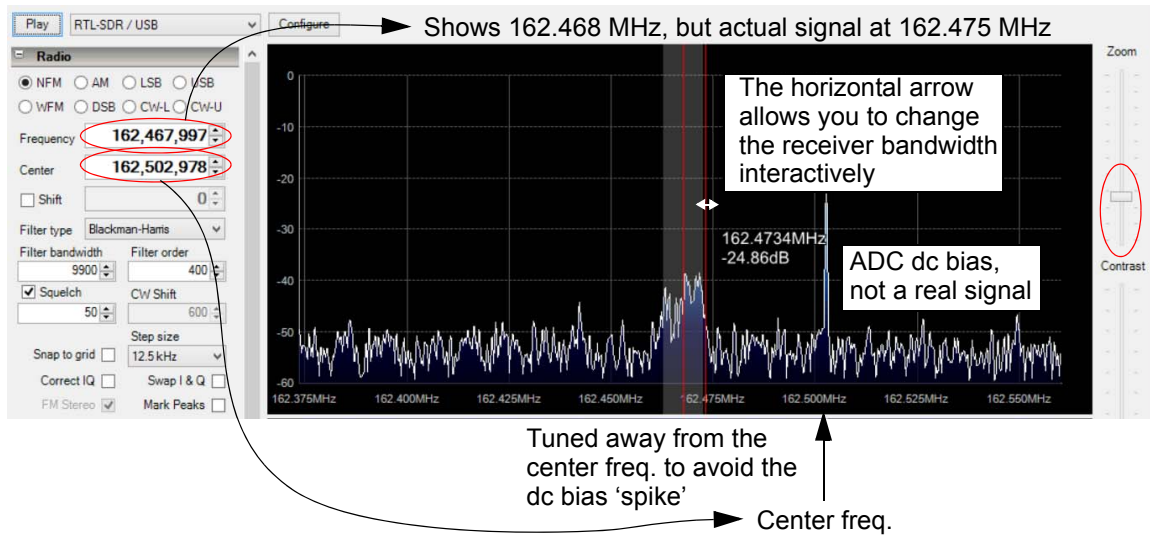

Figure 10: Dealing with dc bias at the center frequency, f_c , and taking note of frequency error.
It is important that you have the proper SDR device selected before you hit play. Figure 10 shows you how to select the proper dongle and also covers how to configure the RF gain of the device.
You may notice that there is always a spectrum spike at the center frequency f_c . This is due to a small dc bias present in the ADC outputs. Take a look at Figure 10 to see what I mean. If the spike due to ADC bias is interfering with reception, you can move f_c over slightly and then tune in your desired signal using the **Frequency** control. With this technique you are letting SDR# perform
1. Now its time to really do something. Tune in the NOAA weather station WXM56, found at 162.475 MHz. From Lab 4 you know that this is a narrow band FM signal. In SDR# under radio you need to click NFM for narrowband FM demodulation. You may need to try the offset frequency technique described in Figure 10 to avoid interference from the dc spike.
- (b) Make note of the receiver Filter Bandwidth that gives you the best reception. Note this is the bandwidth used by the FM demodulator, not $f_s/2$. See Figure 10 for information on how to change the bandwidth interactively using the mouse.